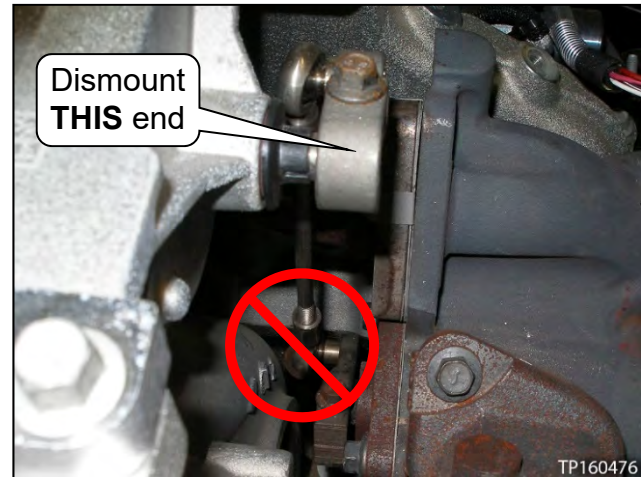

Figure 34
21. Loosen the bolt, and then dismount the **UPPER** rotary turbine control valve linkage (see Figure 34).